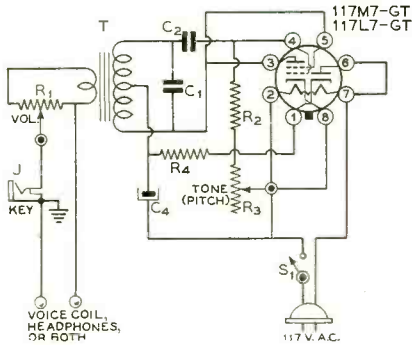

Figure 1. Schematic diagram of a.c.-d.c. code practice oscillator.
Describing the simpler unit first, the code practice oscillator of figure 1 consists of a single-tube feedback oscillator in which the necessary phase shift in feedback voltage is supplied by the center tapped output transformer, T, and by the grid leak-condenser combination C_2 and R_2-R_3 . The oscillation frequency can be made higher than the "natural" period of the transformer by so proportioning the grid condenser and leak that phase shift takes place at the "natural" frequency of T. At some higher frequency the combined phase shift will be favorable for
- Other constants same as for fig. 1.